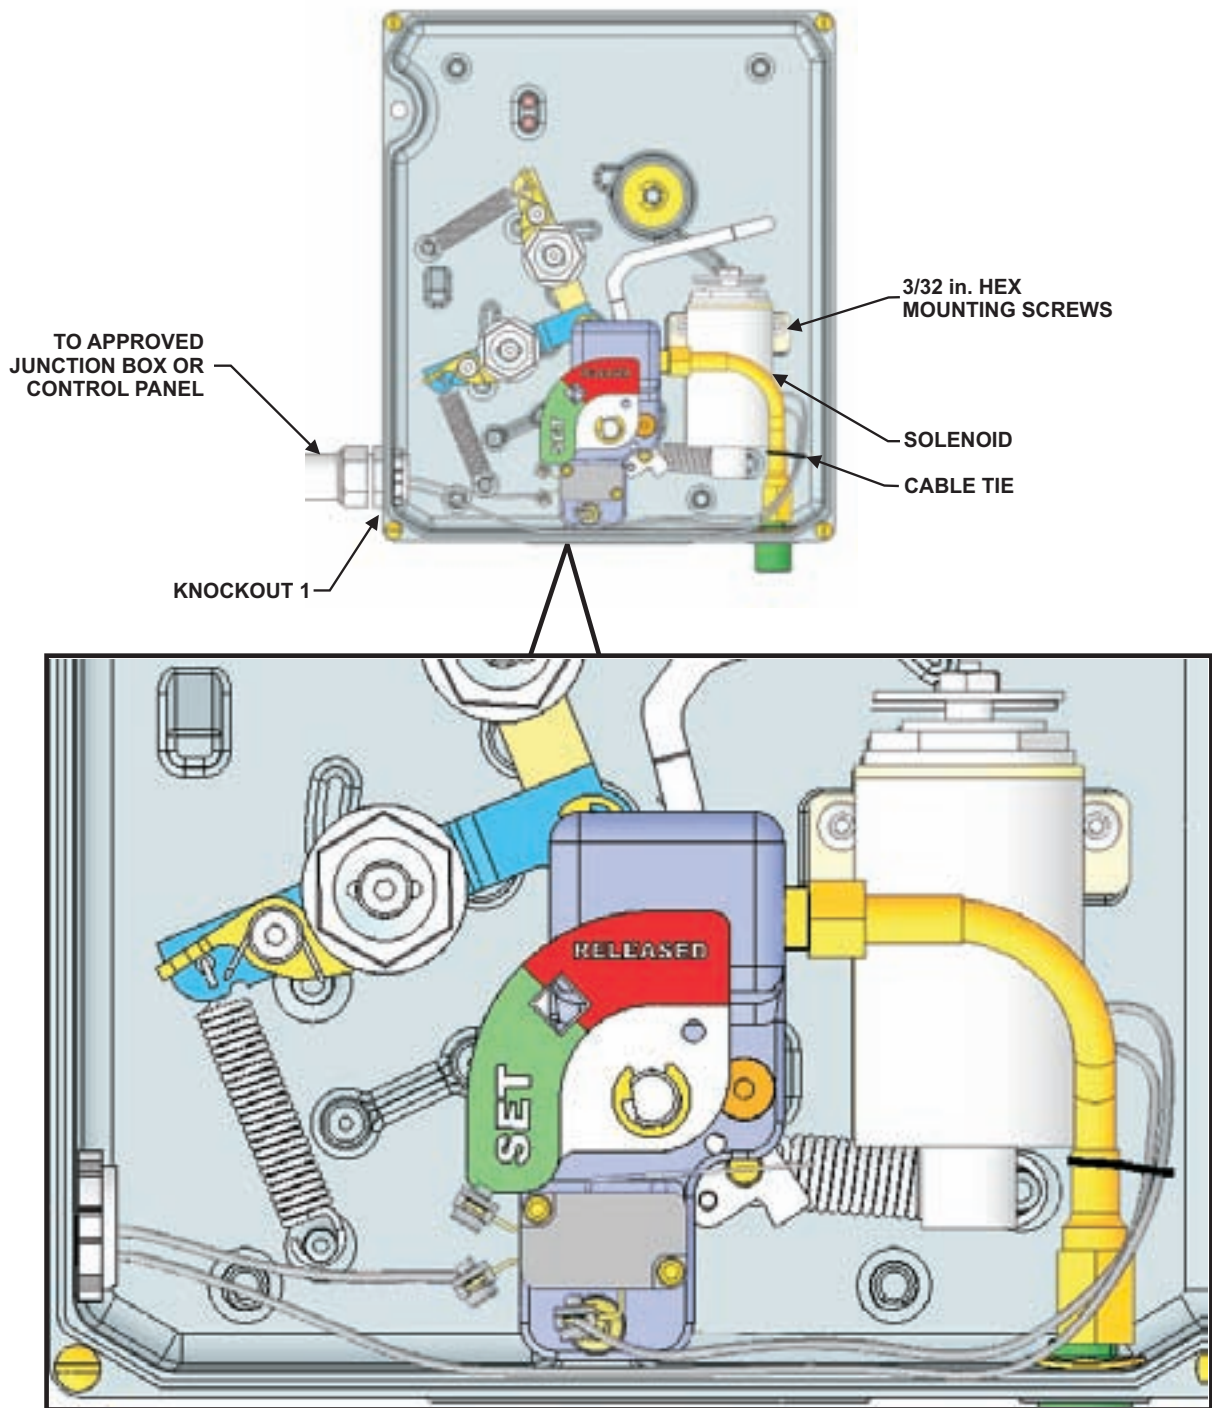
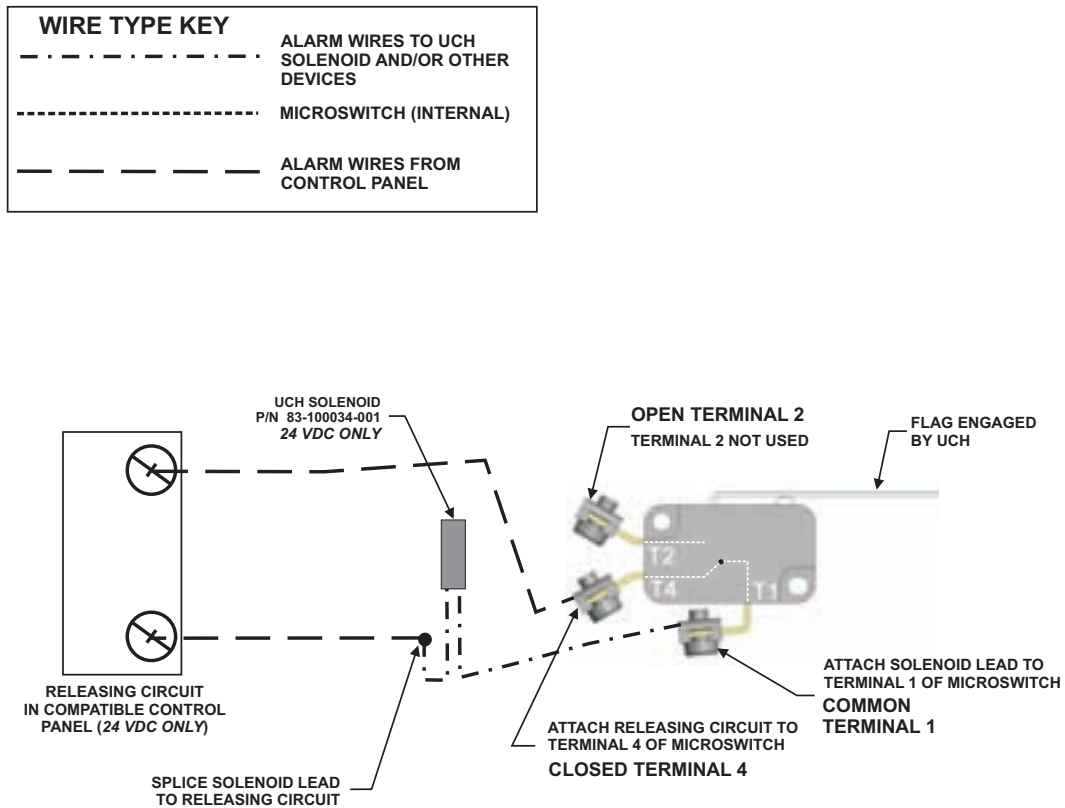

Figure 4-34. Solenoid Mounted and Wired in the UCH Control System
Figure 4-36. Release Wiring with Terminal Type Microswitch
1. Using a 3/32-inch Allen key, position the Solenoid behind the High-Pressure Nitrogen Tubing, aligning the mounting bracket with the mounting screw holes on the actuator mounting pad (see Figure 4-34).
- Finish the releasing loop by attaching a wire to T4 of the microswitch, through the conduit and into an approved control panel. See Figure 4-34, Figure 4-36 and Section 2-2.1.5.